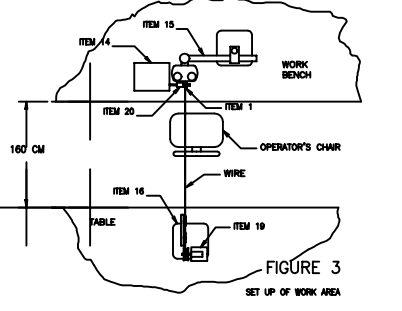

FIGURE 3
- REMOVE THE SUPPLY SPOOL OF ITEM 5 FROM ITS PROTECTIVE BOUL. CAREFULLY EXAMINE THE OUTER SURFACE OF THE WIRE ON THE SPOOL FOR ANY SIGN OF DAMAGE TO THE WIRE. REJECT SPOOL IF DAMAGED. MOUNT THE SPOOL ON ITEM 17 AND WIND APPROX 80 TURNS ONTO ITEM 16. SECURE ENDS OF WIRE ON ITEM 18 AND ON THE SUPPLY SPOOL USING A SHORT STRIP OF ITEM 10. MOUNT ITEM 19 ON THE BASE OF ITEM 14. THREAD THE WIRE THRU ITEM 14, AND POSITION THE ASSEMBLY ON A TABLE ABOUT 150 CM BEHIND THE BENCH WITH ITEMS 14 AND 15. SEE FIGURE 3.